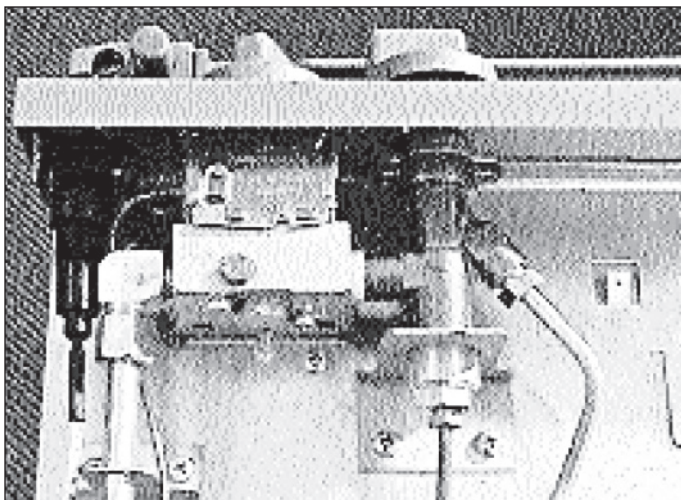

Figure 5-15.
12. Is the gas control valve defective. (See Figure 5-15)